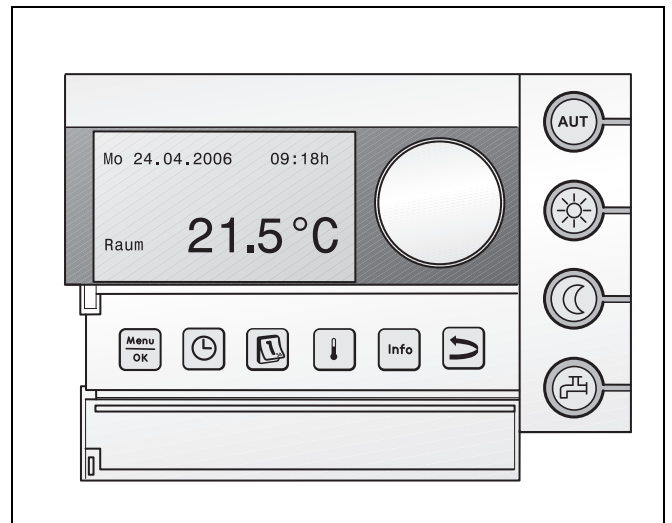

fig. 18 RC35 room controller
- Make the settings on the room controller (e. g. RC35, → fig. 18). We advise you to check and/or set the following: